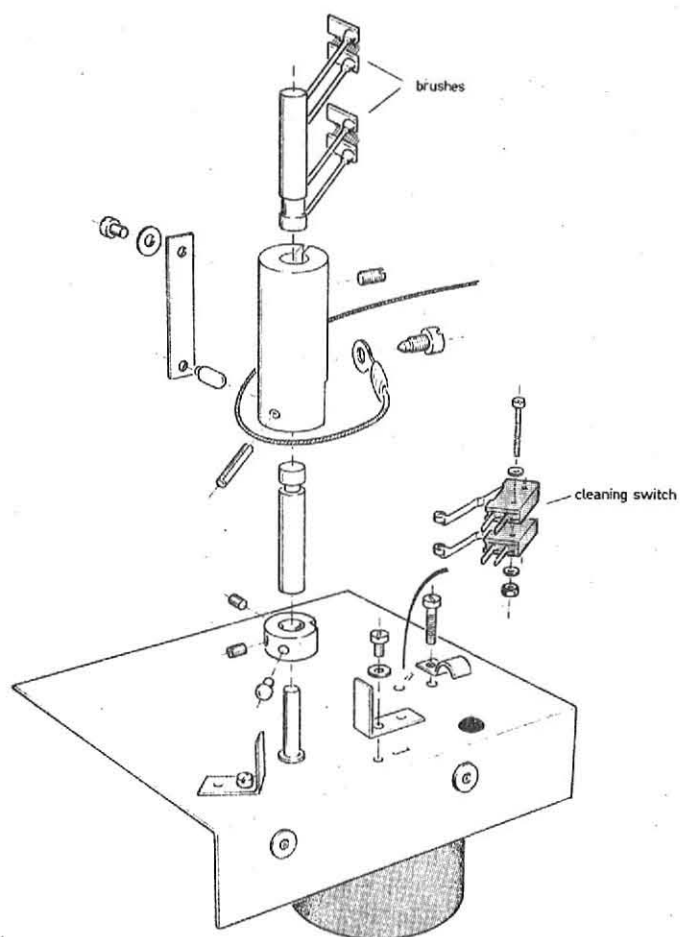

Figure 7-31
5.5 CLEANING SWITCH (figure 7-31)
5.9 CLEANING BRUSHES (OPTIONAL) (figure 7-31)